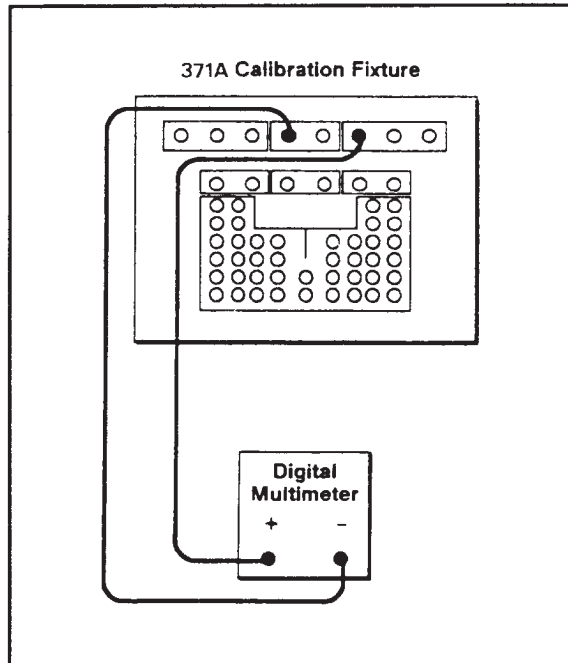

Figure 4-9. Calibration Fixture connections for adjusting Step Generator Gain.
4. Connect the digital multimeter between the STEP GEN VOLTAGE terminal and the COMMON terminal with long patch cords as shown in Figure 4-9.